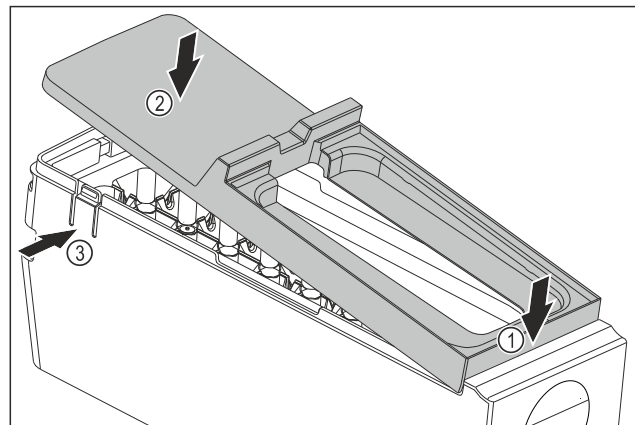

Fig. 144
- ▶ Installing the EasyTwist-Ice body cover: Place the cover on the front. Fig. 144 (1)
- ▶ Lower the cover at the rear. Fig. 144 (2)
- ▷ The cover locks into both tabs Fig. 144 (3) audibly.